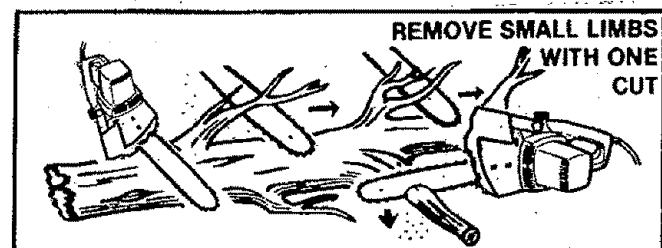

Figure 27
- c. Start at the base of the felled tree and work towards the top, cutting branches and limbs. Remove small limbs with one cut. Figure 27.